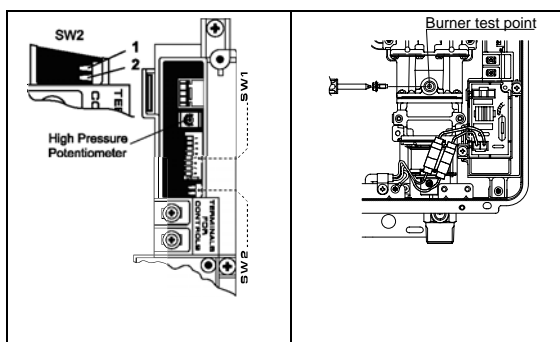

Fig. 1
4. Check gas type switches (Fig.1) are in the correct position (dip switch 1 of SW2 'ON' = NG, 'OFF' = LPG)